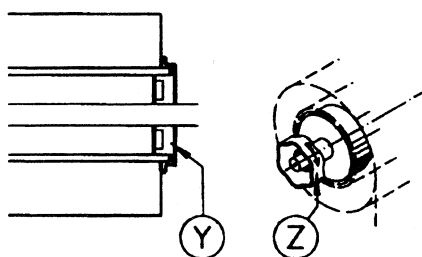

Figure 3-4
Slide the film roll onto the Bobbin until the roll edge touches the reference disk (Y) in Figure 3-4.